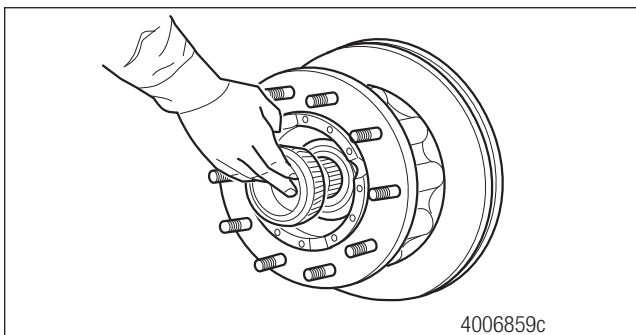

Figure 6.6
- Remove the outer wheel bearing. Figure 6.6.